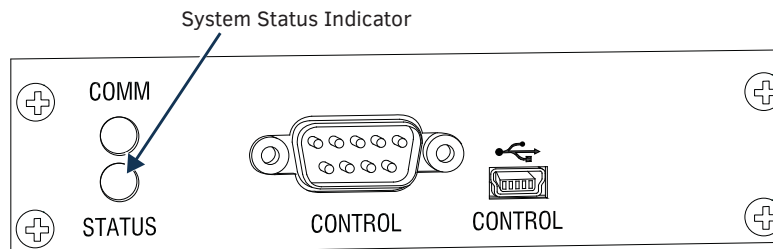

FIG. 41 CPU LED indicators
11. Check the Status LED on the CPU (FIG. 41) for indications of normal display (see table below).